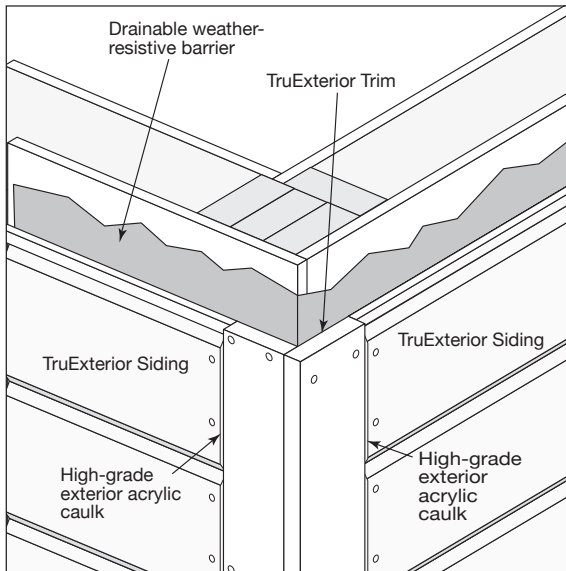

Fig. 9
- Secure each trim piece with approved fasteners every 16 inches along the length of each piece of trim, staggering the nail pattern slightly to prevent opposing nails from contacting each other **(Fig. 9)**
- Butt each course of siding up to the corner trim and secure in place **(Fig. 9)**
- Seal the joint between the outside corner trim and the siding with high-grade exterior acrylic caulk **(Fig. 9)**